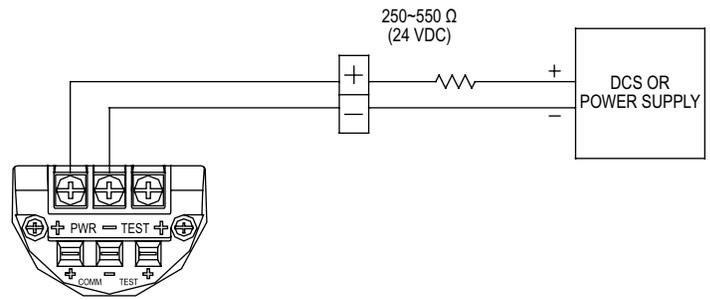

Figure 4-2: Wiring the 3100 pressure transmitter
4. Close the transmitter cover. To meet the explosion-proof ratings make sure the covers are fully engaged. **Note:** Do not power the transmitter with high voltage (AC). It can damage the transmitter.
5. You must connect a 250~550 Ω Resistor in Current Loop (between Power Supply and Transmitter) for HART® Communication. See Figure 4-2.